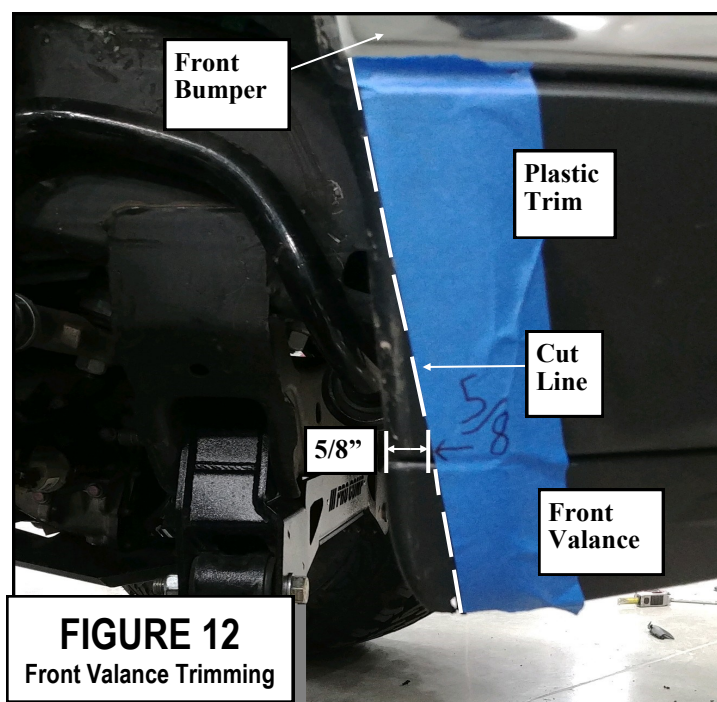

FIGURE 12
81. If trimming is necessary, measure 5/8" from the front of the wheel well along the upper valance. A diagonal line can be made from the top of the bumper, beneath the chrome, to the bottom of the valance. See FIGURE 12. Using a suitable cutting tool, (abrasive cutoff wheel, Sawz-all, etc.) trim along the marked line. This cut should be right behind a mounting bolt on the inside of the valance. After trimming, clean/sand the sharp edge with a file until it is safe to touch. The fender liner inside the front of the wheel well can be lightly hit with a dead blow hammer to allow additional tire clearance.